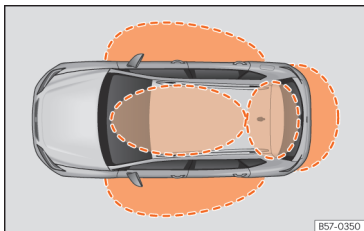
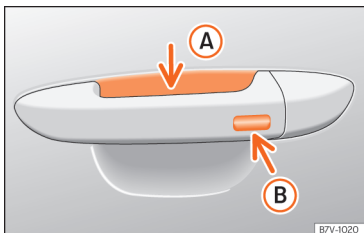

Fig. 80 Keyless Access: proximity zones.
Fig. 81 Door handle: sensor surfaces
»» Fig. 81
Keyless Access is a key-free locking and ignition system to unlock and lock the vehicle without actively using its key. To do this, all that is required is to have a valid vehicle key in the detection area where you are attempting to access the vehicle »» **Fig. 80** and to touch one of the sensor surfaces on the door handles »» **Fig. 81** or operate the *softtouch*/handle on the rear lid »» **page 105** »» **!**
If a valid key is in the proximity of the car, »» **Fig. 80** the Keyless Access locking and starting system gives the key entry as soon as one of the sensor surfaces on the door handles is touched or the *softtouch*/handle on the rear lid is operated.
- Grip one of the front door handles. When you do this, you touch the sensor surface »» Fig. 81 (A) (arrow) of the handle and the vehicle unlocks.
- Touch (once) the locking sensor surface »» Fig. 81 (B) (arrow) on one of the front door handles. The door that is used must be closed.
- Touch (once) the sensor surface »» Fig. 81 (B) (arrow) on one of the front door handles. The vehicle locks with the "Safe" security system »» page 100. The door that is used must be closed.
- Touch (twice) the sensor surface »» Fig. 81 (B) (arrow) of one of the front door handles to lock the vehicle without activating the "Safelock" security system »» page 100.
When the vehicle is locked, the rear lid automatically unlocks on opening if there is a valid vehicle key in the proximity zone »» Fig. 80.
- Push the central locking button  on the remote control and touch the locking sensor surface of the driver door handle  **Fig. 81 B** within the following 5 seconds. Do not grasp the door handle; otherwise the vehicle will not unlock. Deactivation is also possible if the vehicle is locked through the driver's door lock.
To close all the electric windows and the sunroof using the **comfort function**, keep a finger for a few seconds on the locking sensor surface  **Fig. 81 B** (arrow) of the door handle until the windows and roof have closed.
The sensor surfaces on the door handles could engage if hit with a water jet or high pressure steam if there is a valid vehicle key in the proximity. If at least one of the electric windows is open and the sensor surface  **Fig. 81 B** (arrow) on one of the handles is activated continuously, all windows will close.